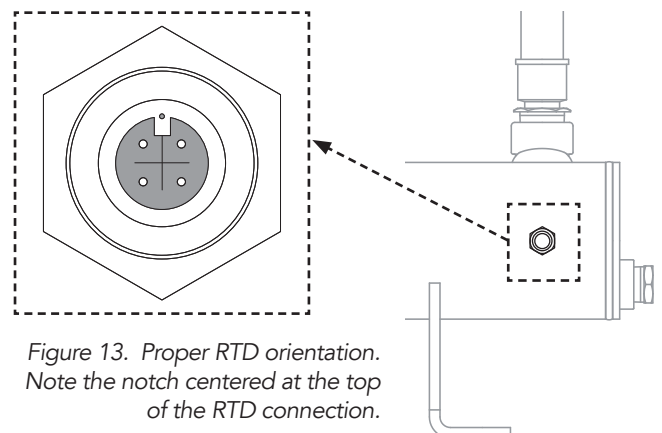

Figure 13. Proper RTD orientation. Note the notch centered at the top of the RTD connection.
5. Screw replacement RTD to tank. When tightening, ensure plug is aligned with notch toward top of tank. See Fig. 13.